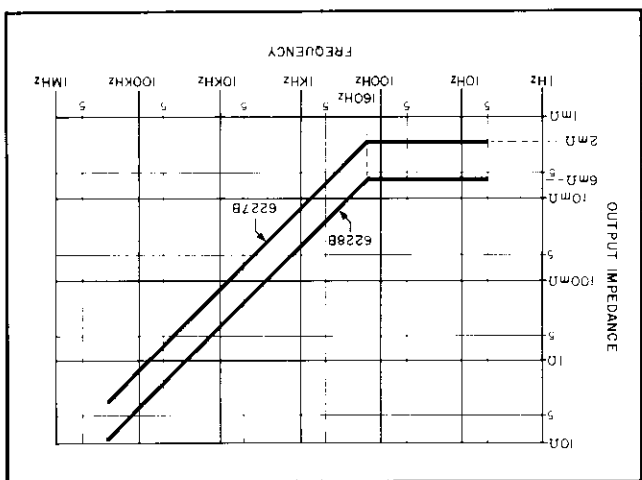

Figure 5-8. Output Impedance versus Frequency
- j. Repeat Steps (d) through (i) for any other frequencies of interest up to 250KHz. (Note: Amplifier is not required at frequencies above 20KHz.) For any given frequency, the output impedance should be less than that indicated by the value of the curve in Figure 5-8. For example, at 1KHz the output impedance should be less than approximately 11 milliohms for the 6227B and 40 milliohms for the 6228B.